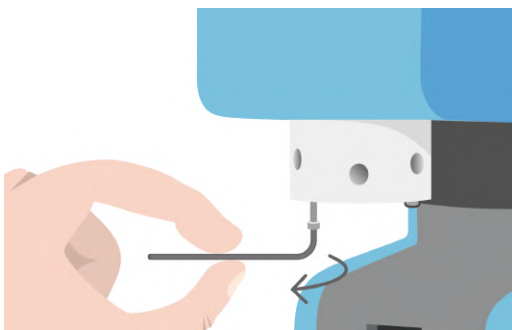

FIGURE 4.14 – Remove the 2 screws holding the valve
2. Remove the valve from the pump. Hold it by hand and unscrew the 2 screws holding the valve, using a hex key (2 mm hex key for 25 - 1000 μ L syringes, 2.5 mm hex key for 2.5 - 5 mL syringes) (see Figure 4.14).